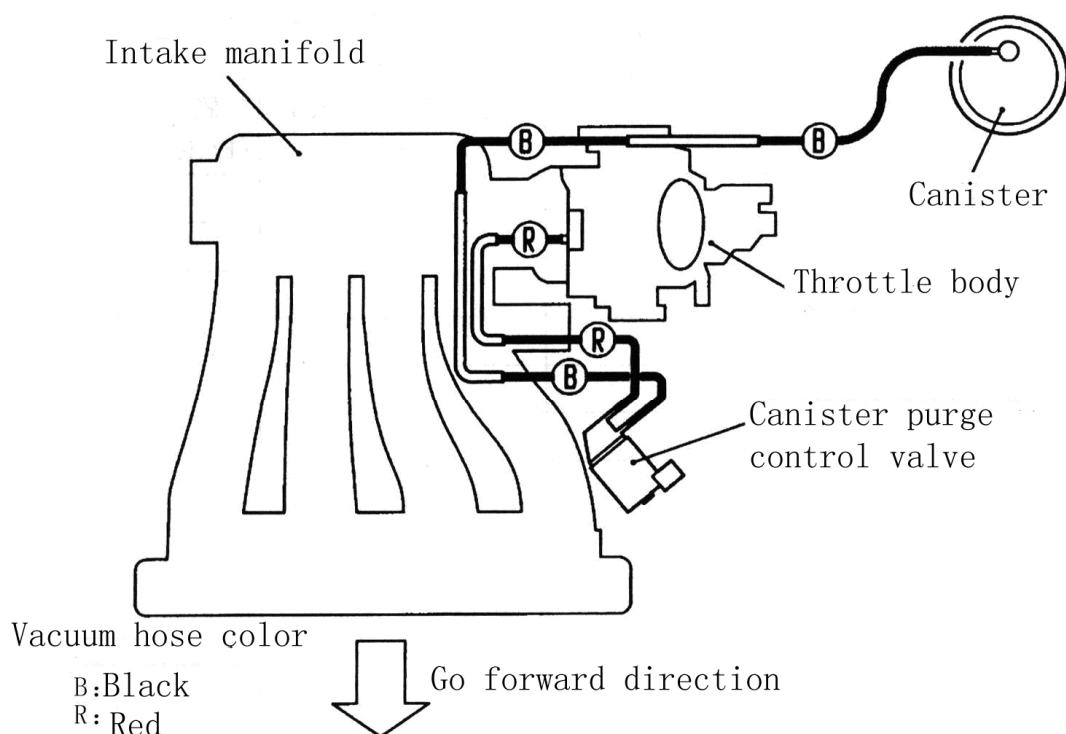

Fig.10-4
(2) VACUUM HOSE PIPING DIAGRAM (see Fig.10-4)